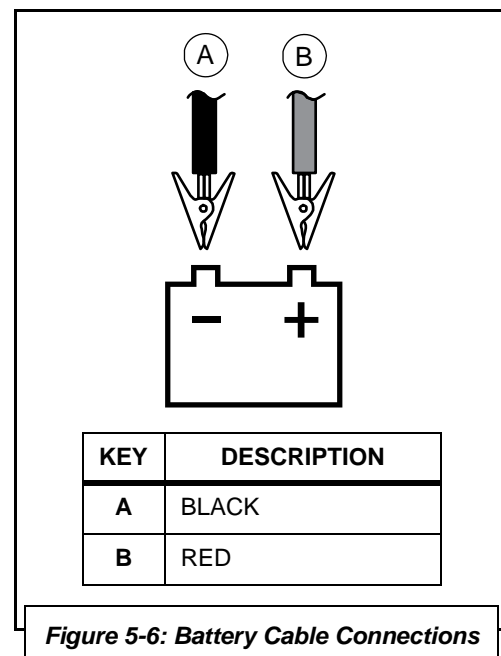

Figure 5-6: Battery Cable Connections
- positive terminal, BLACK to the negative terminal (*Figure 5-6*).